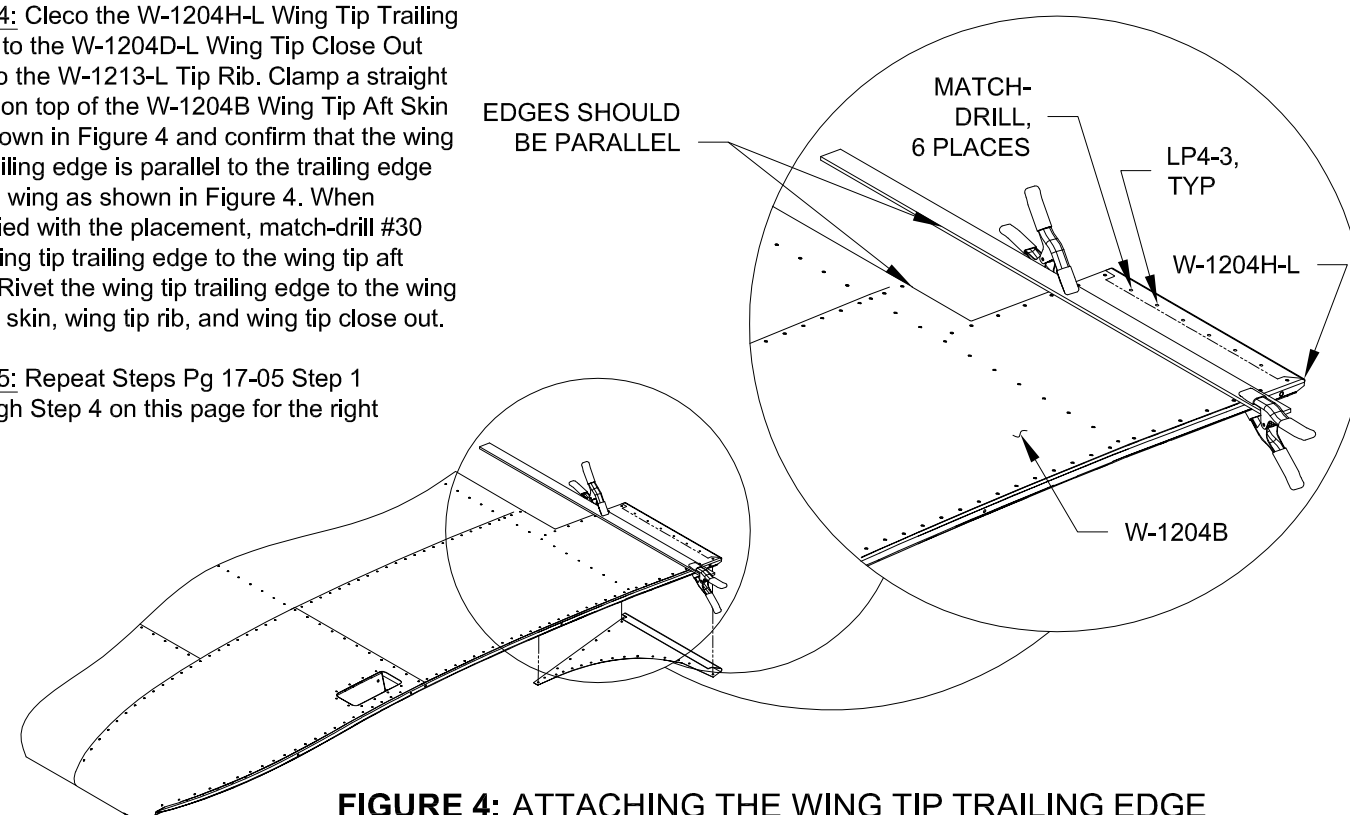

FIGURE 4: ATTACHING THE WING TIP TRAILING EDGE
Step 4: Cleco the W-1204H-L Wing Tip Trailing Edge to the W-1204D-L Wing Tip Close Out and to the W-1213-L Tip Rib. Clamp a straight edge on top of the W-1204B Wing Tip Aft Skin as shown in Figure 4 and confirm that the wing tip trailing edge is parallel to the trailing edge of the wing as shown in Figure 4. When satisfied with the placement, match-drill #30 the wing tip trailing edge to the wing tip aft skin. Rivet the wing tip trailing edge to the wing tip aft skin, wing tip rib, and wing tip close out.